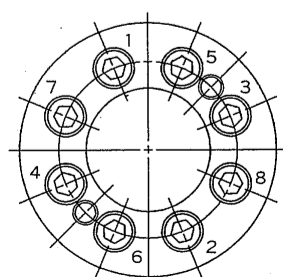

Fig. 3 Tightening sequence for bolts
4. Set a torque wrench to approximately 1/4 of the torque MA (refer to the table given below for torque MA) and tighten each of the tightening bolts evenly in the sequence shown in figure 3.